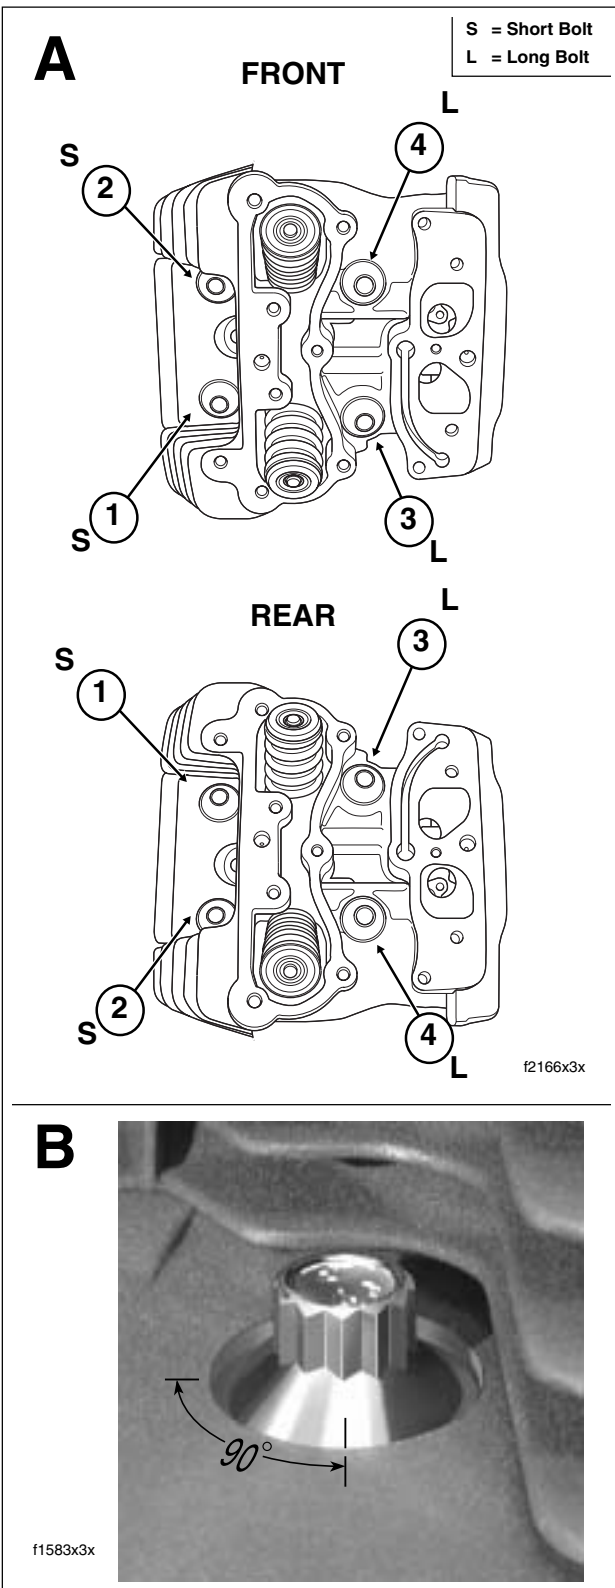

Figure 3-34. Cylinder Head Torque Sequence and Bolt Size
- b. Tighten the cylinder head bolts to 120-144 **in-lbs** (13.6-16.3 Nm) in the sequence shown in A of Figure 3-34.
- d. Using a grease pencil, mark a straight line on the cylinder head bolt continuing the line over onto the cylinder head. Using the marks as a guide, turn each bolt 1/4 turn or 90 degrees. See B of Figure 3-34. Be sure to tighten the cylinder head bolts in the sequence shown in A of Figure 3-34.